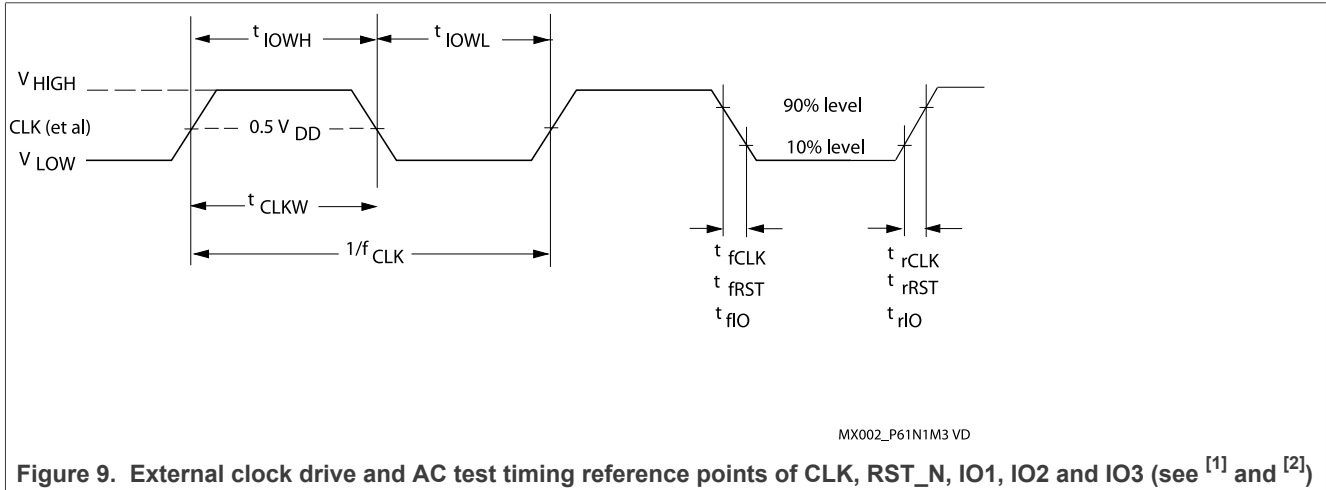

Figure 9. External clock drive and AC test timing reference points of CLK, RST_N, IO1, IO2 and IO3 (see [1] and [2])
- [5] During AC testing the inputs CLK, RST_N, IO1, IO2 and IO3 are driven at 0 V to 0.3 V for a LOW input level and at $V_{DD} - 0.3$ V to V_{DD} for a HIGH input level. Clock period and signal pulse (duty cycle) timing is measured at 50 % of V_{DD} (see Figure 9).